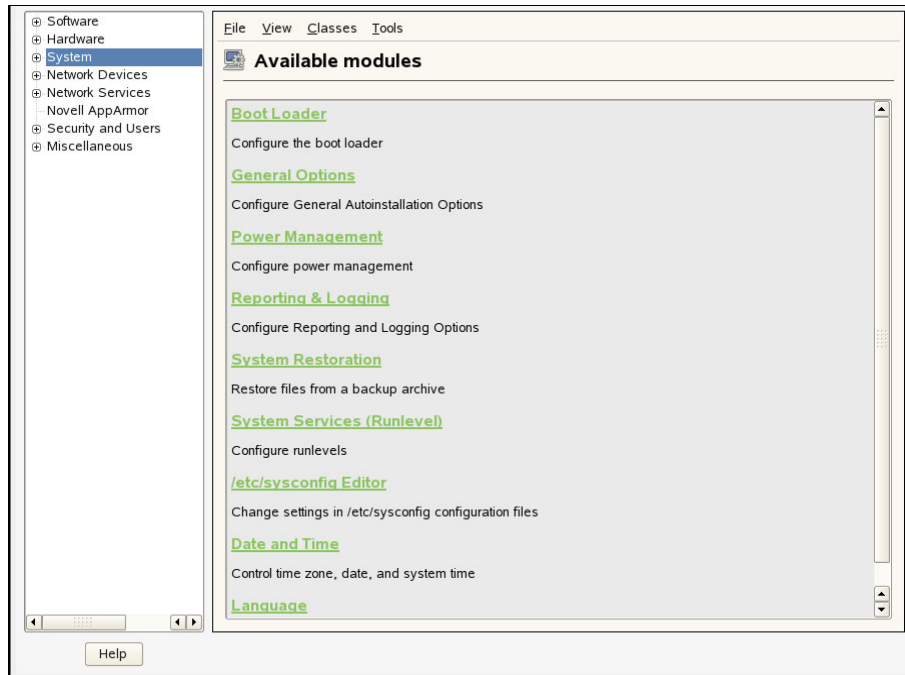

Figure B-4 Main AutoYaST menu (SLES 11)
2. After the selection, the main AutoYaST configuration window opens as shown in Figure B-4.